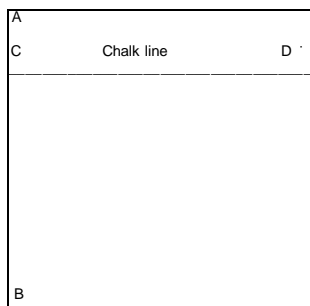

Figure 1
1. Identify the straightest wall in the room (Fig 1, AB).
2. Snap a chalk line at 90 degrees to this wall and a short enough distance from the other wall to allow for wastage and trimming.(Fig 1, CD)